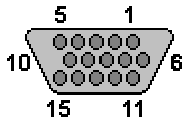

Figure 3-29: VGA Connector
- CN Pinouts: See **Figure 3-29** and **Table 3-38**